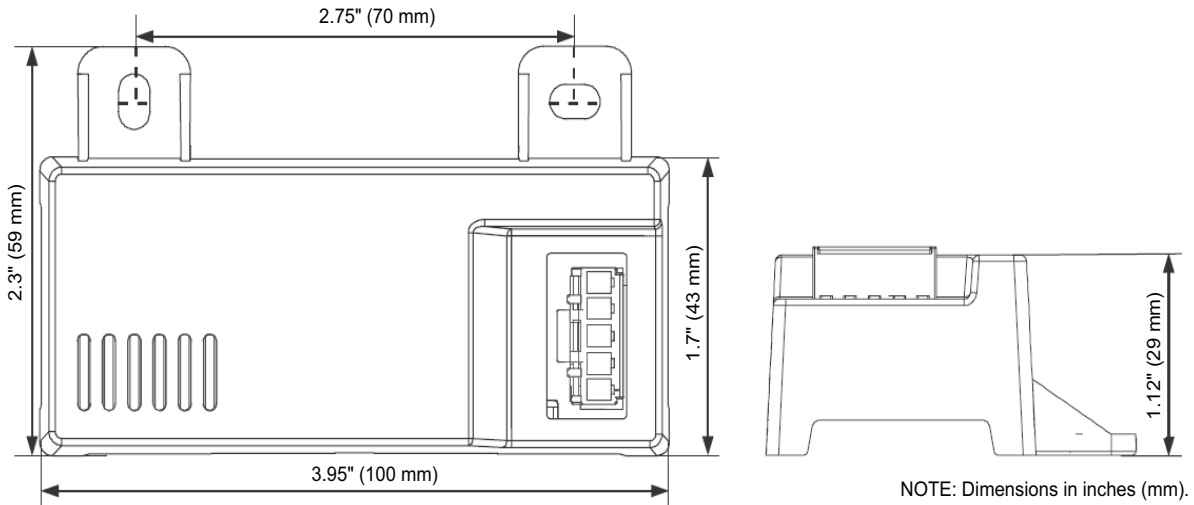
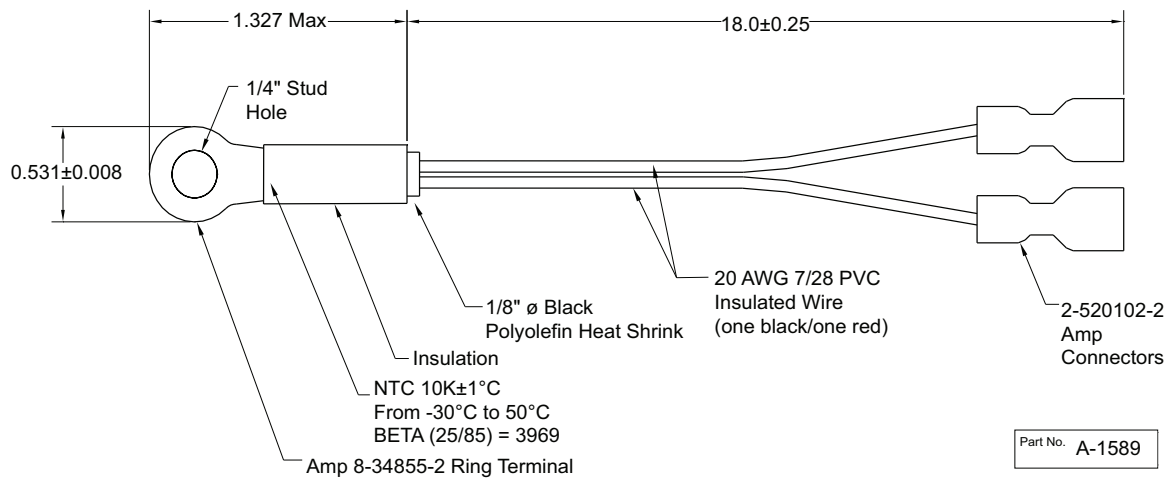
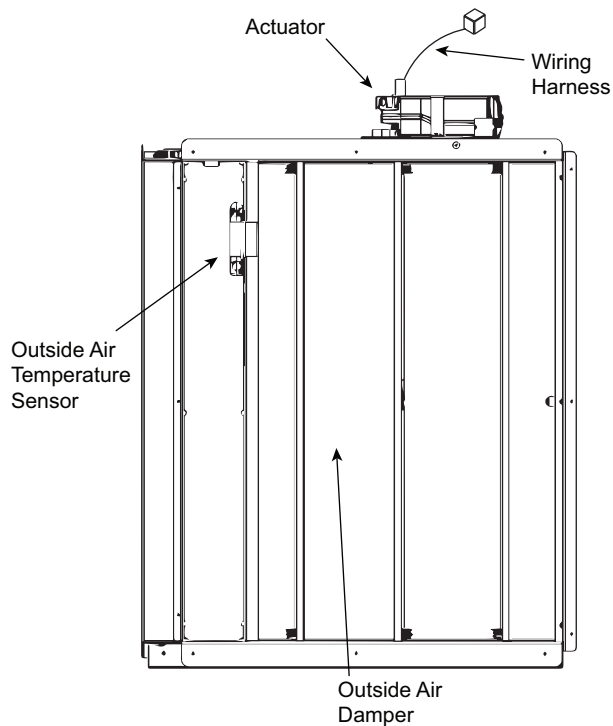

Fig. 66 – HH57LW001 Dimensional, Connection and Switching Information
Fig. 67 – HH79NZ039 Dry Bulb and Mixed Air Sensor Wiring
Fig. 68 – EconomizerONE Component Locations (CRECOMZR108A00 Shown)
When using the HH57LW001 enthalpy sensor (see Fig. 66) for outside air changeover, the existing HH79NZ039 dry bulb sensor (see Fig. 67) must be removed. The enthalpy sensor will be mounted in the same location as the dry bulb sensor (see Fig. 68). When the enthalpy sensor's OA (Outside Air) temperature, enthalpy, and dew point are below their respective setpoints, the outside air can be used for free cooling. When any of these are above the setpoint, free cooling will not be available. Enthalpy setpoints are configurable and create an enthalpy boundary according to the user's input. For additional details, see Fig. 69-70 and Table 26.
The optional enthalpy control sensor (P/N: HH57LW001) communicates with the POL224 economizer controller using the 5-wire harness, 48TC005213. The HH57LW001 sensor can be used as a single outside air enthalpy, a differential return enthalpy, or a differential return temperature sensor. Refer to the base unit control wiring diagrams found earlier in this book to wire the HH57LW001 enthalpy sensor for each option. Use Fig. 66 and Table 28 on page 48 to locate the wiring terminals for each enthalpy control sensor.
Economizers are shipped standard with an HH79NZ039 outside air dry bulb sensor (see Fig. 67). System default setting (high temp limit) is 63°F (17°C) and has a range of 48°F to 80°F (9°C to 27°C). Sensor is factory installed on economizer.
If installing the optional HH57LW001 enthalpy sensor, the HH79NZ039 dry bulb outside air sensor must first be removed. Wire sensor to harness 48TC005213 and the (5) wires from the harness to the EconomizerONE harness in the return air chamber. Harness 48TC005213 has a 5-pin plug that connects directly to the HH57LW001 enthalpy sensor. Refer to the base unit control wiring diagrams earlier in this book for wiring connections. Refer to Fig. 66 and Table 28.